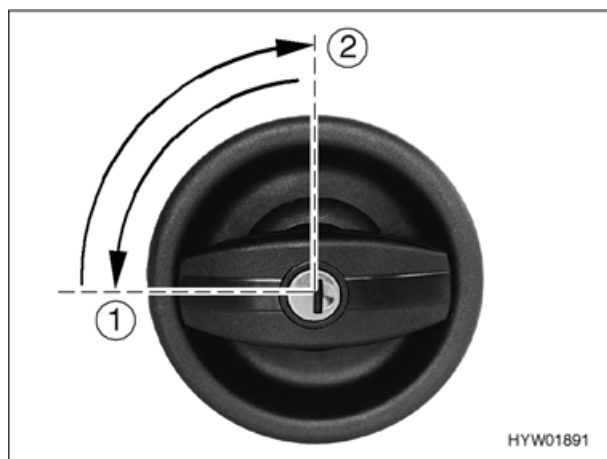

Fig. 11 Door lock of conversion door, outside, closing
- Insert the key into locking cylinder and turn a quarter turn in an anticlockwise direction (Fig. 11,1).
- Return the key to the central position (Fig. 11,2) and remove it.